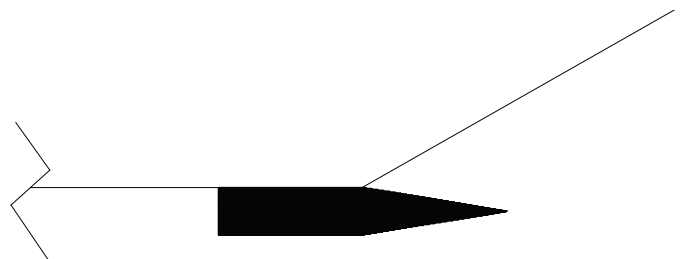

FIGURE 3-7
12. Weld the pad in position using E7018 low hydrogen welding rod. Make 1/2" (13 mm) fillet welds 3.00" (76 mm) long and 6.00" (152 mm) on center (see figure 3-5). Run out welds 1.50" (38 mm) on the ends and grind to a taper in both the side view (see figure 3-7) and the top view (see figure 3-6). Note the direction of grinding marks.